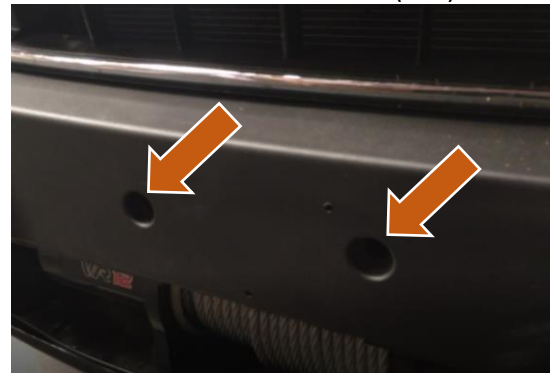

Figure 9: Front Bolts Underneath the License Plate Holder
10. Remove the now exposed bolt caps as applicable and remove the final two (2) 13mm bolts holding on the stock bumper (Figure 9).
31. The front two (2) 13mm factory bolts can be re-installed into the bumper support (reference Figure 9).